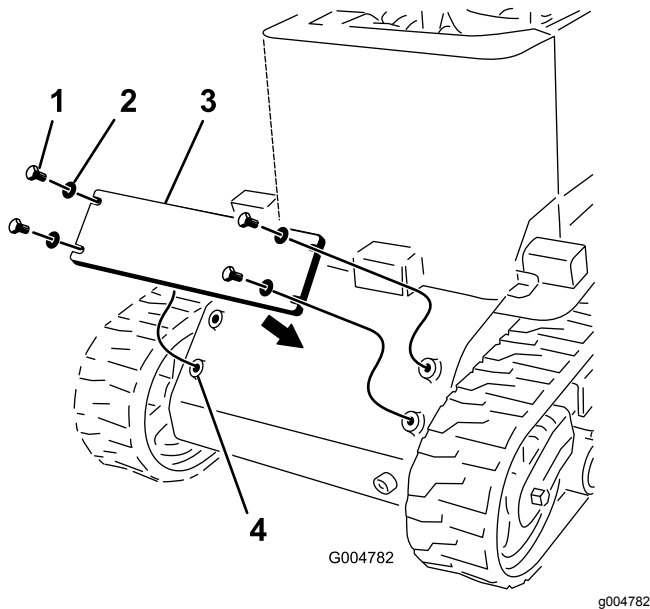

Figure 6
1. Apply thread-locking compound to the 4 bolts (1/2 x 1-1/4 inches), and use them and 4 washers to install the counterweight to the front of the machine (Figure 6).